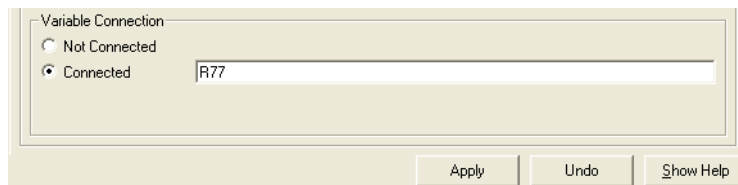

Figure 27. Entered Signal Hardware Address
28. Select Connected, and then enter the relevant signal hardware address, see also Figure 27. The address format depends on the used communication protocol.